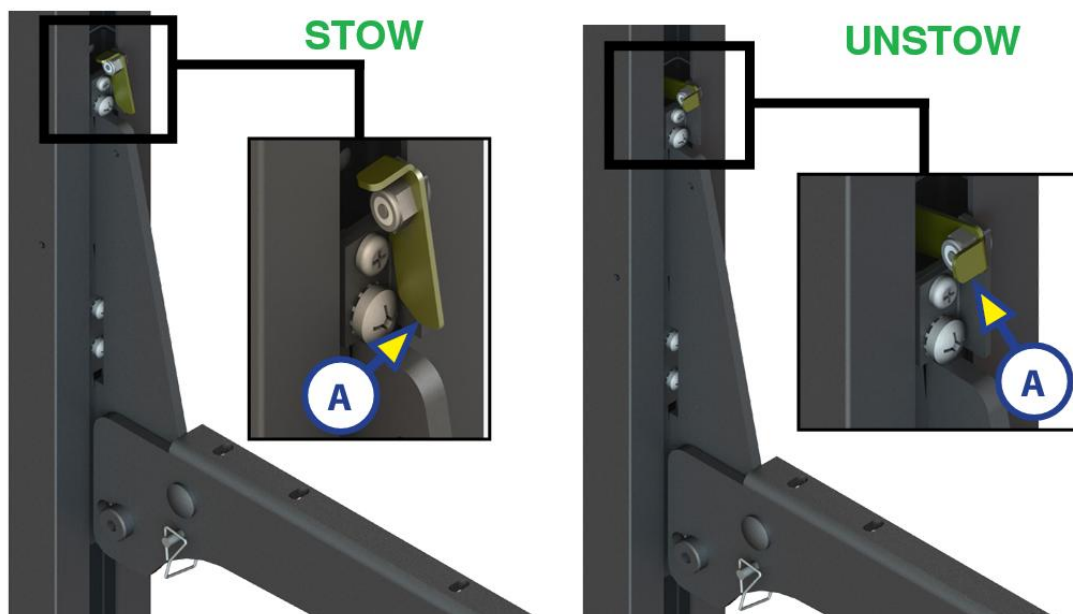

Figure 144. Stop Lock Lever positions for having the upper bunk STOWED (left) and UNSTOWED (right.)
2. At one c-channel rail, at the top of the lower trolley, locate the Stop Lock Lever. Rotate the Stop Lock Lever outward. When all four trolleys have Stop Lock Levers in this position, as shown in Figure 144, the upper bunk will be held at the top (stowed.)
3. Repeat the lever adjustment at each of the other three (3) corners.